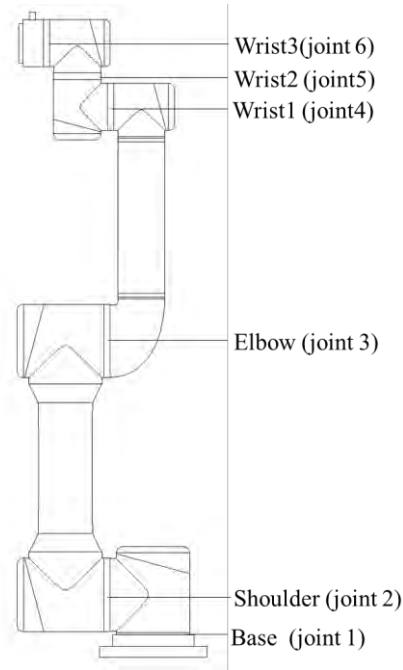

Figure 5.1 Manipulator Joints
As shown in figure 5.1, The AUBO-i5 robot system consist of manipulator, control box(which can choose a variety of models), manipulator base and teach pendant. The manipulator imitates human which has six joints and each joint shows a degree of freedom. As can be seen in figure5.2, manipulator's joint includes The robot base (A), shoulder (B), elbow (C), wrist1(D) ,wrist2(E) and wrist3(F). The manipulator base is used to fix the manipulator. End-effector is used to connect manipulator and tool. Aluminium pipe is used to connect shoulder and elbow or elbow and wrist. Through the AUBOPE user interface or hand-guiding, users can cotrol every joint to turn and move end-effector to any poses.